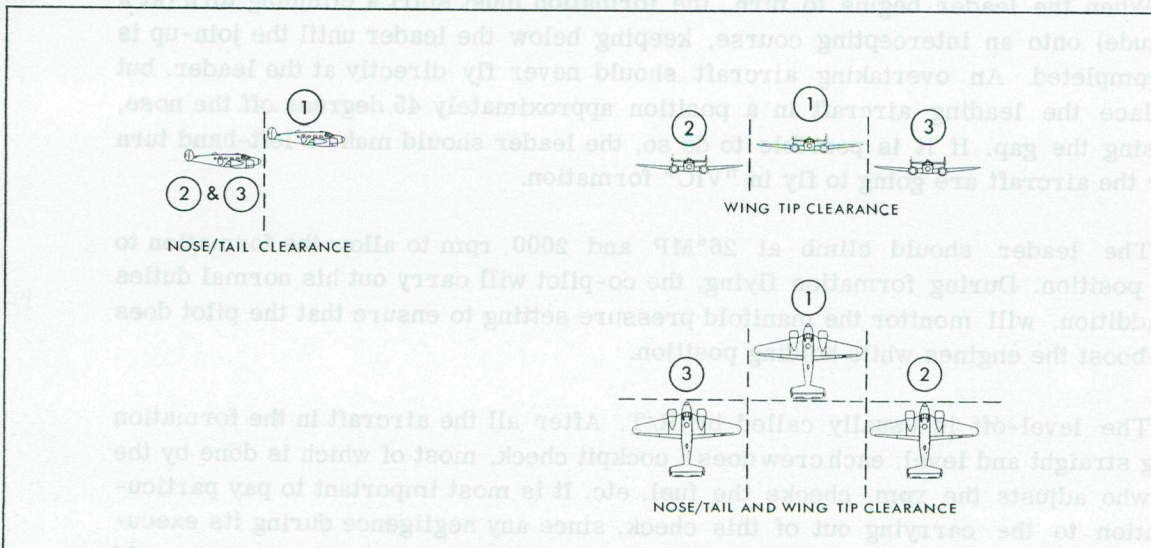

Figure 2. Station Keeping
(1) The wingmen should fly to one side of the leader and in a position approximately 45 degrees to the rear of the leader. Lateral spacing will vary depending on the requirements of each particular flight, but usually nose/tail/wing-tip clearance is maintained at the 45-degree position. Not only it is important for you to be able to achieve correct positioning when flying in formation; it is equally important for you to be able to maintain that position correctly for whatever length of time may be required, and also to learn to recognize instantly whenever you deviate from it. (Figure 2 shows station-keeping as applied to "VIC" formation.) Your instructor will demonstrate the correct techniques for station-keeping, and will help you to establish reference points which will be of assistance to you in recognizing instantaneously any movement from your position. Here are some useful hints which will help you to maintain station. When forming on another aircraft, line up the second cabin-window on its near side with the first cabin-window on its far side. A change in this line-up will then be an indication that you should be making an adjustment. You may find that you have a tendency to over-control while adjusting your position; this is a sign that you are making the corrections too late. Remember to keep the aircraft trimmed.